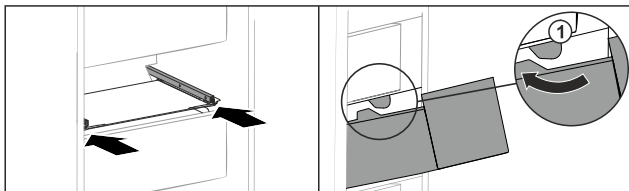

Fig. 236
- Vendoseni sirtarin mbi ndalues Fig. 236 (1).